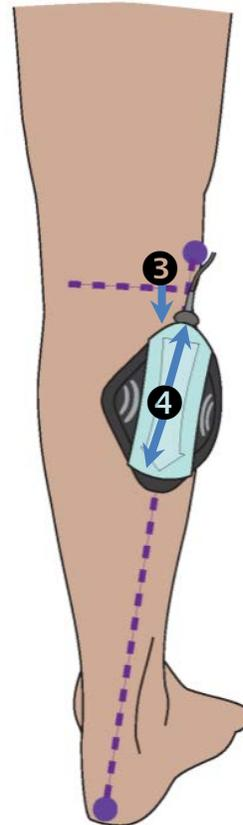

Figure 16. Ray Placed on Calf
- 3 Align the Ray so the arrow is pointing towards the heel, with the cable end of the sensor two fingers' widths inferior to the line of the knee joint (Figure 16 ❸).
- 4 Ensure the length of the blue part of the Ray is aligned with the length of the imaginary line before pressing it onto the patient's skin (Figure 16 ❹).